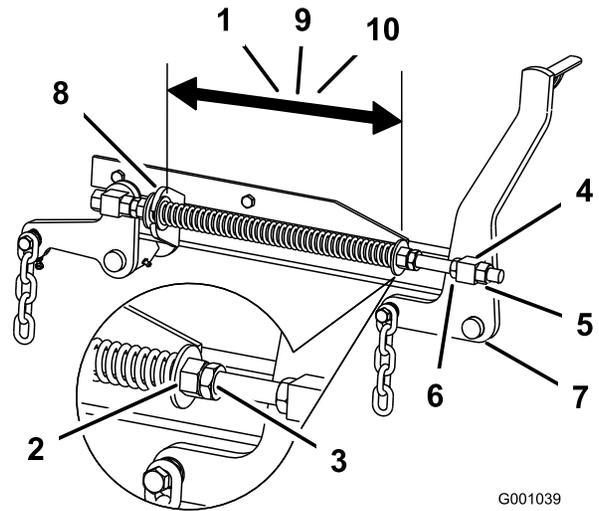

Figure 86
2. Check the distance between the 2 large washers, it needs to be 28.2 cm (11-1/8 inches) for 52 inch mower decks, 26.7 cm (10-1/2 inches) for 60 inch mower decks, or 29.2 cm (11-1/2 inches) for 72 inch mower decks (Figure 86).
3. Adjust this distance, by loosening the spring-jam nut and turning the nut in front of each spring (Figure 86).
4. Lock the nut into position by tightening the spring-jam nut (Figure 86).